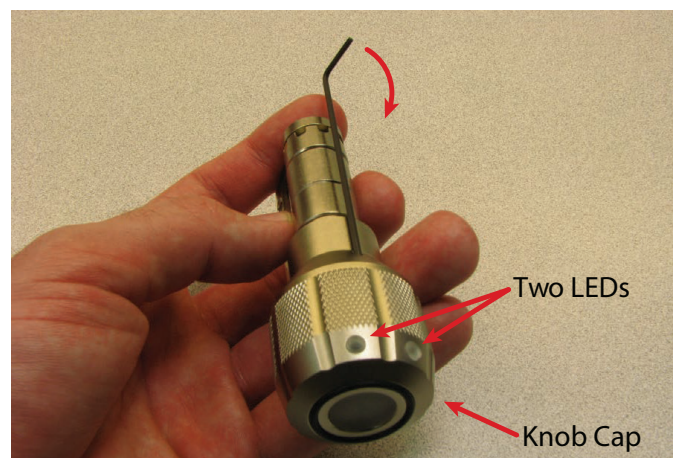

Figure 7: Loosen Set Screw
1. Use a FlashLock T6 Torx wrench (HDM1893) to loosen the set screw as shown in Figure 7. Rotate the wrench clockwise from the front of the lock.